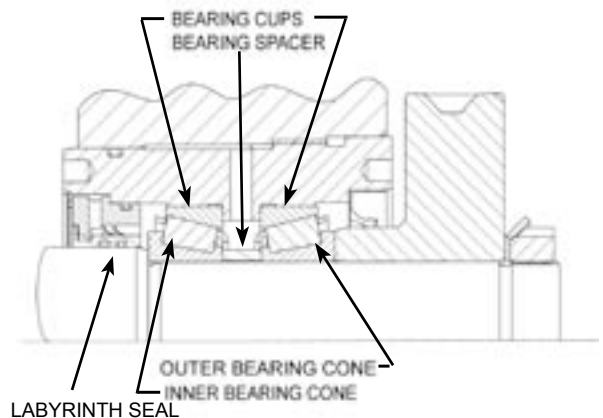

FIGURE 8
- Remove the retaining ring. See Figure 8.
7. Refer now to Figure 8 on page 7. The bearing housing should already be assembled; if not see BEARING HOUSING ASSEMBLY. Install the O-rings onto the bearing housings; apply a lubricant to the o-ring to ease installation. Pack the bearings with a heavy-duty multi-purpose grease. Thread the bearing housing into the bracket on the lower shaft. Repeat for the upper bearing housing. Rotate each bearing housing assembly clockwise until the lobes hit the pump head, then back them off ¼ turn.